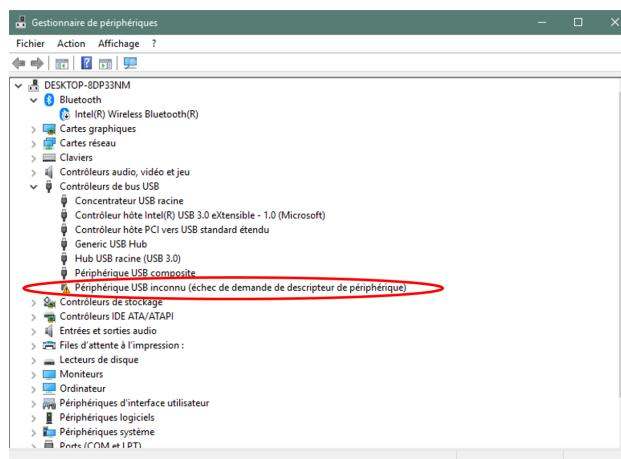

Figure 3.12: Chip not recognised.
- Check if the chip is known or not, to do this go in *device Manager < USB bus controller*. If the chip is not recognised, then you will see a caution sign next to the device as shown on the fig. 3.12 ;